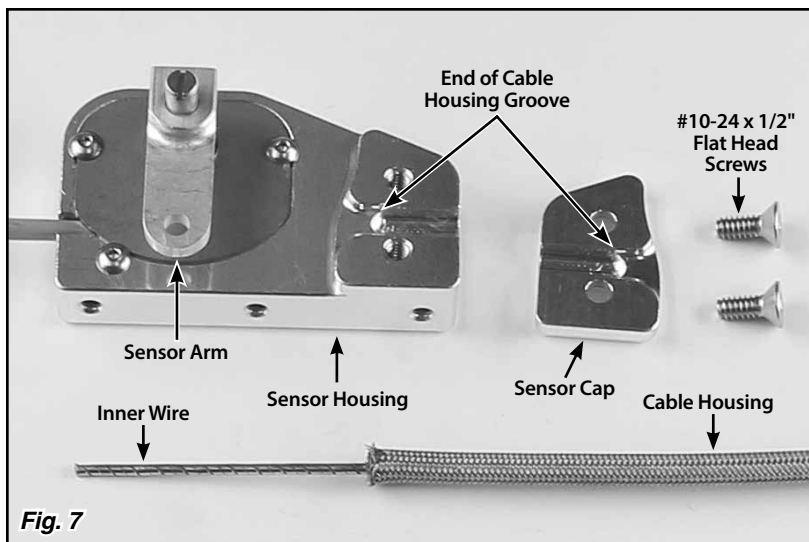
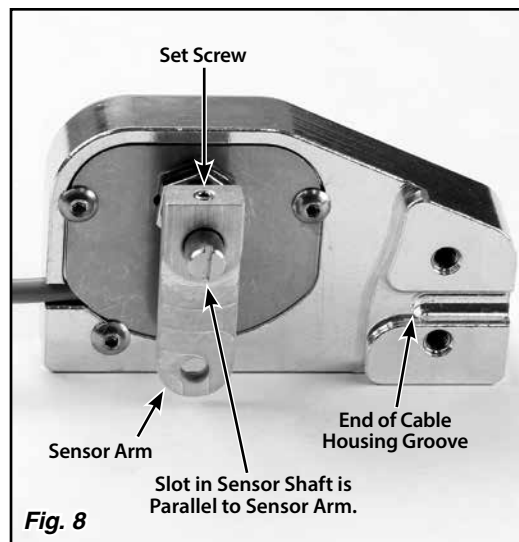

Fig. 7
Fig. 8
Step 2: Remove the sensor cap by removing the two #10-24 x 1/2" flat head screws using a 1/8" Allen wrench, and separate the cable housing from the sensor. **Fig. 7**
Step 3: Make sure the sensor arm is parallel to the slot in the sensor shaft, with the set screw in the top of the sensor arm aligned with the slot. If it is not, loosen the set screw in the top of the sensor arm using a 1/16" Allen wrench, and adjust the position of the sensor arm on the shaft. **Fig. 8**
There is a groove in the sensor housing that the end of the cable housing fits in to. Mark the cable housing at the end of the cable housing groove. Remove the cable housing from the adjustable cable mounting bracket. **Fig. 7** and **Fig. 8**